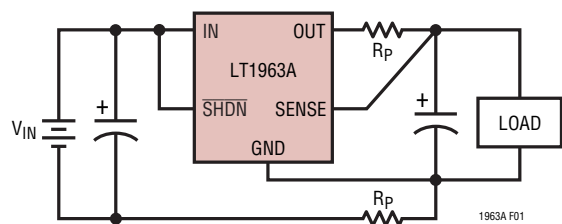

Figure 1. Kelvin Sense Connection
**SENSE:** Sense. For fixed voltage versions of the LT1963A (LT1963A-1.5/LT1963A-1.8/LT1963A-2.5/LT1963A-3.3), the SENSE pin is the input to the error amplifier. Optimum regulation will be obtained at the point where the SENSE pin is connected to the OUT pin of the regulator. In critical applications, small voltage drops are caused by the resistance ( $R_P$ ) of PC traces between the regulator and the load. These may be eliminated by connecting the SENSE pin to the output at the load as shown in Figure 1 (Kelvin Sense Connection). Note that the voltage drop across the external PC traces will add to the dropout voltage of the regulator. The SENSE pin bias current is 600 $\mu$ A at the nominal rated output voltage. The SENSE pin can be pulled below ground (as in a dual supply system where the regulator load is returned to a negative supply) and still allow the device to start and operate.